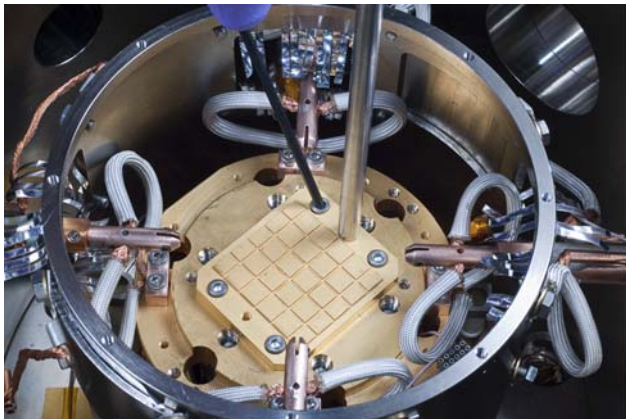

FIGURE 4-6 Left: Fastening the sample holder onto the sample stage; Right: Connecting the signal cable on a triaxial or coaxial sample holder
4. Lower the sample holder onto the sample stage using the lifter tool (FIGURE 4-6).
8. If you are mounting an optional triaxial or coaxial sample holder, connect the signal cable after mounting the sample holder to the sample stage (FIGURE 4-6). Using tweezers, line up the white dots and push the cable plug into the sample holder socket.